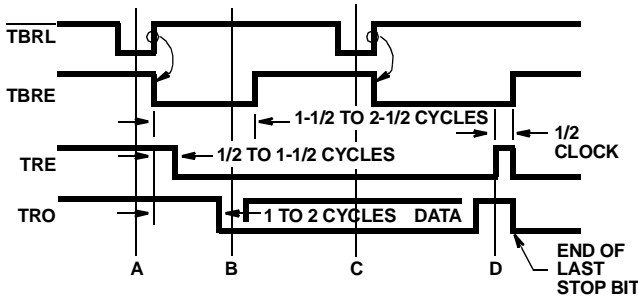

FIGURE 3. TRANSMITTER TIMING WAVEFORMS
Transmitter timing is shown in Figure 3. (A) Data is loaded into the transmitter buffer register from the inputs TBR1 through TBR8 by a logic low on the TBRL input. Valid data must be present at least t_{DT} prior to, and t_{TD} following, the rising edge of TBRL. If words less than 8-bits are used, only the least significant bits are used. The character is right justified into the least significant bit, TBR1. (B) The rising edge of TBRL clears TBRE. 1/2 to 1 1/2 cycles later, depending on when the TBRL pulse occurs with respect to TRC, data is transferred to the transmitter register and TRE is cleared. TBRE is set to a logic High one cycle after that. (C) A second pulse on TBRL loads data into the transmitter buffer register. Data transfer to the transmitter register is delayed until transmission of the current character is complete. (D) Data is automatically transferred to the transmitter register and transmission of that character begins.